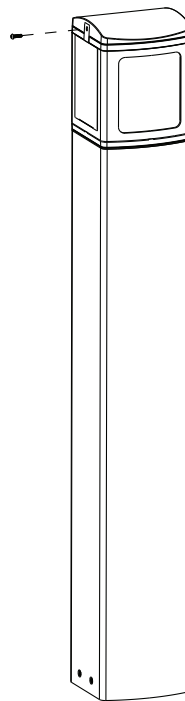

Fig. 3
- 3.) Secure the shield in place using the M4 pan head screw where the set screw was removed in step 1 (see **Fig. 3**).